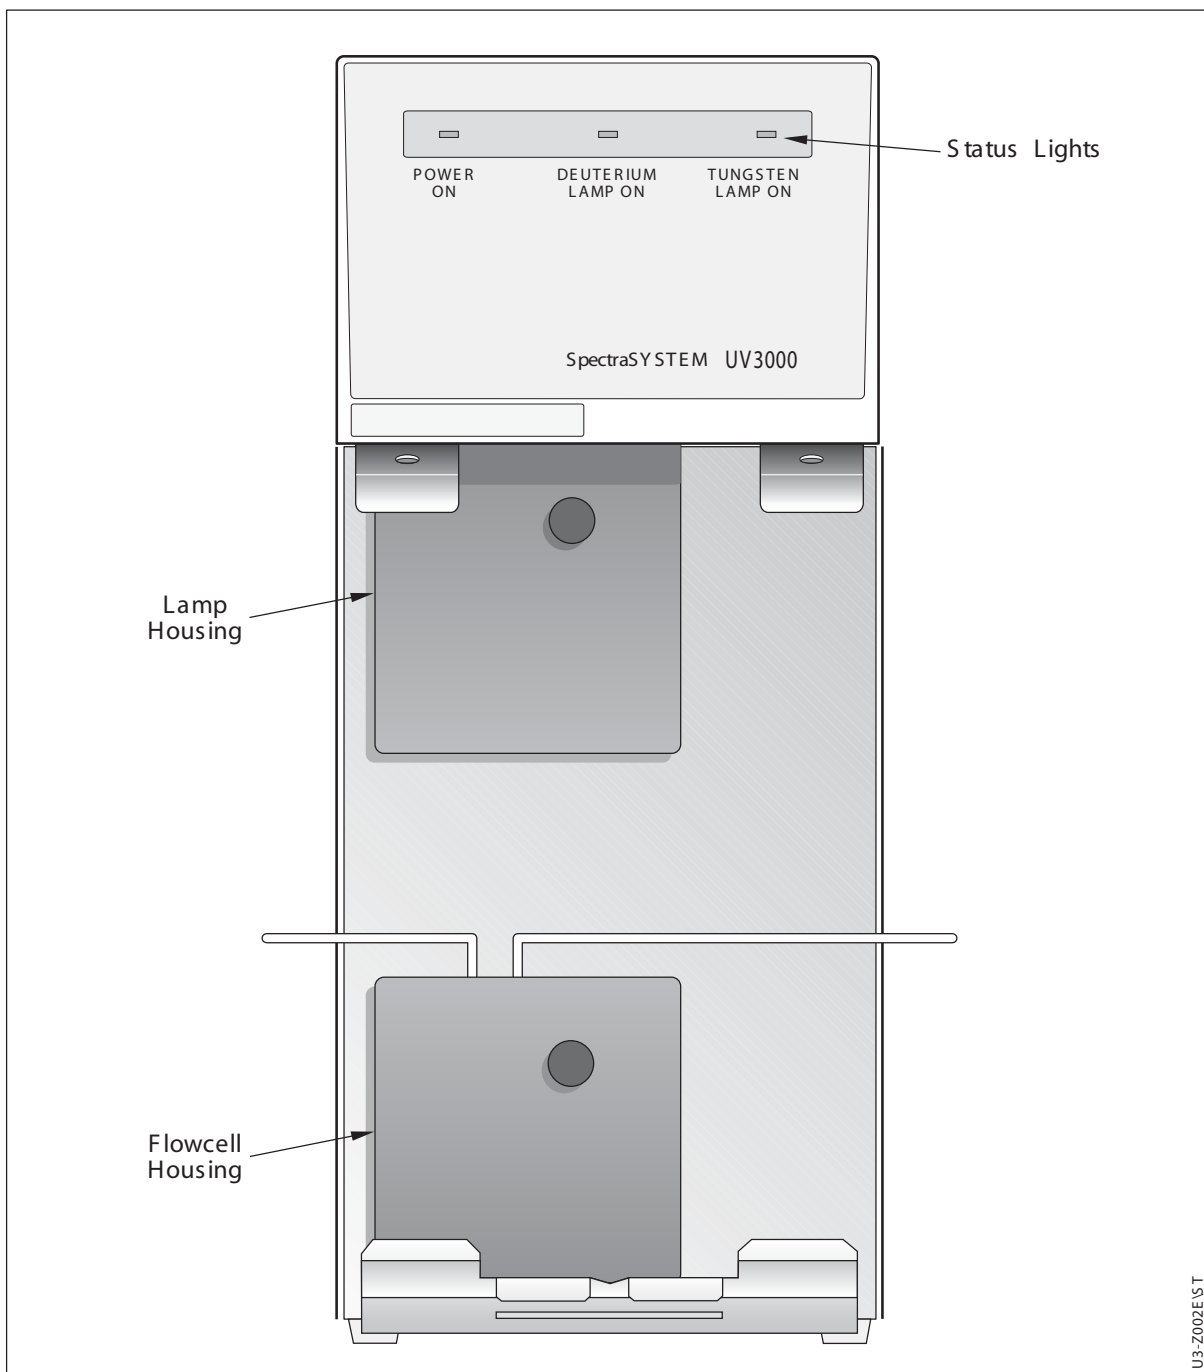

Figure 1.6 The flowcell assembly is located behind the flowcell housing
The UV3000 front panel (Figure 1.6) has three lights that indicate whether the instrument is turned on, and which lamp is in use. From the front panel you can also access the lamps and flowcell.
1. Remove the front panel of the detector. Although the flowcell assembly is located behind the lower housing (Figure 1.6), the housing does not need to be removed to connect your inlet and outlet lines.